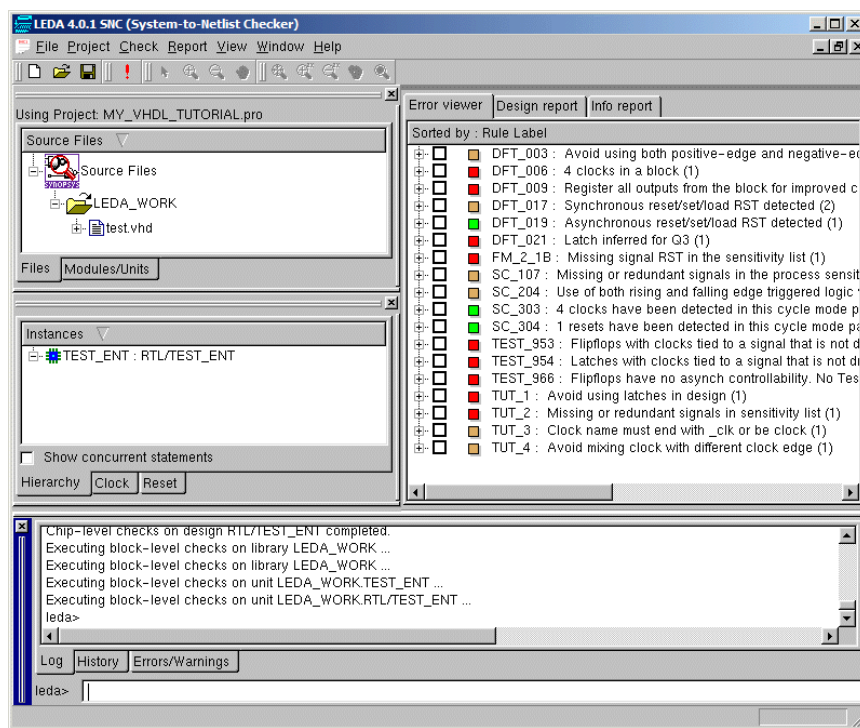

Figure 2: Specifier Project After Build
12. This takes you to the Confirm & Create part of the Wizard. Leave the Build with Check checkbox selected and click Finish. If the tool displays a small Get Top Module/Design Entity window, note that this information is needed for checking chip-level rules. For this exercise, leave these settings at their default values and click the OK button. Leda compiles the VHDL file and executes the Checker. You should see something like the following screen (Figure 2).